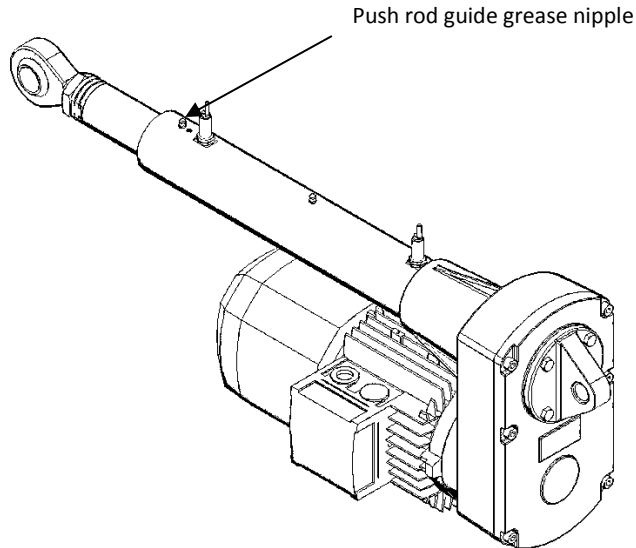

Figure 9.3 – Lubrication of push rod guide for UAL/UBA 5
- Relube the push rod guide using proper grease nipples, as shown on Fig. 9.3.